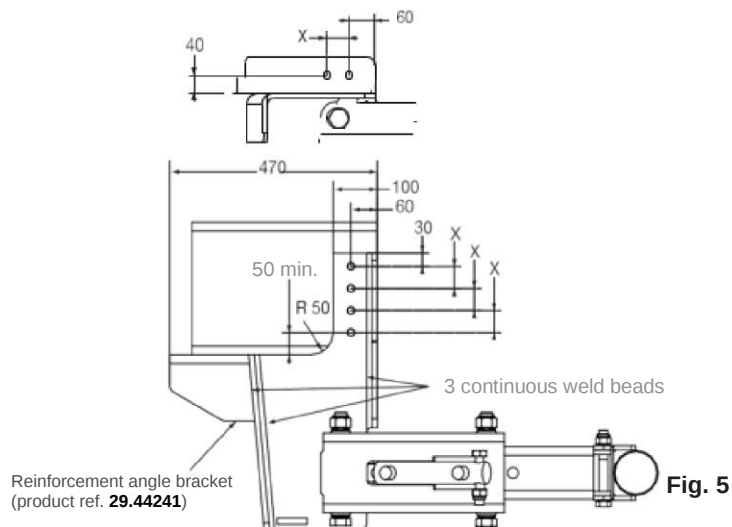

Fig. 5
- If you have selected the chassis angle bracket option (product ref. 29.44241), cut the plates as indicated in Fig. 5, position the plates and angle brackets on the side rails, drill the holes and assemble with 12 of the 20 screws (**3**); then weld the angle brackets to the plates with three continuous weld beads (fig. 5).